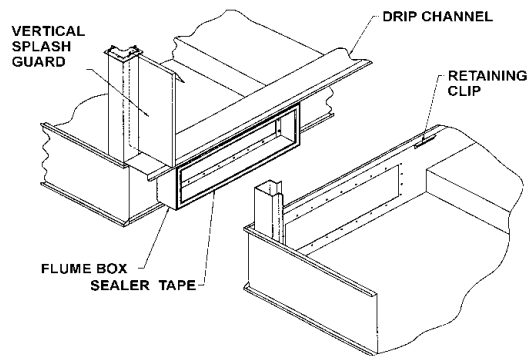

Figure 3 - Equalizer Flume Connection, Models UBT 8-324B through 8-936B.
2. Clean the flanges on the equalizer flume on the end to be field connected. Apply a layer of sealer tape on the flange centered between the hole centers and the outside edge. Remove paper backing strip from the sealer tape (see Figure 3).